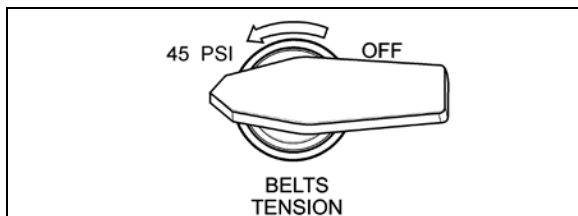

FIGURE 12: BELT TENSIONER VALVE ON REAR CONTROL PANEL (OPTION)
8. Locate the A/C compressor belt tensioner pressure releasing valve (if so equipped). Turn pressure releasing valve handle counterclockwise in order to release pressure in belt-tensioner air bellows and loosen belts (Figure 12). Remove the belts.